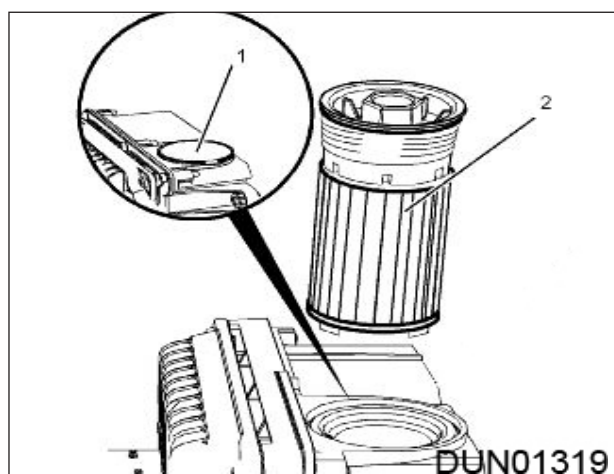

Figure 9.33 - Pump Main Filter Parts
2. Remove the protective cover (Item 1). Remove the DEF filter assembly and discard the filter assembly. Reference: Figure 9.33.